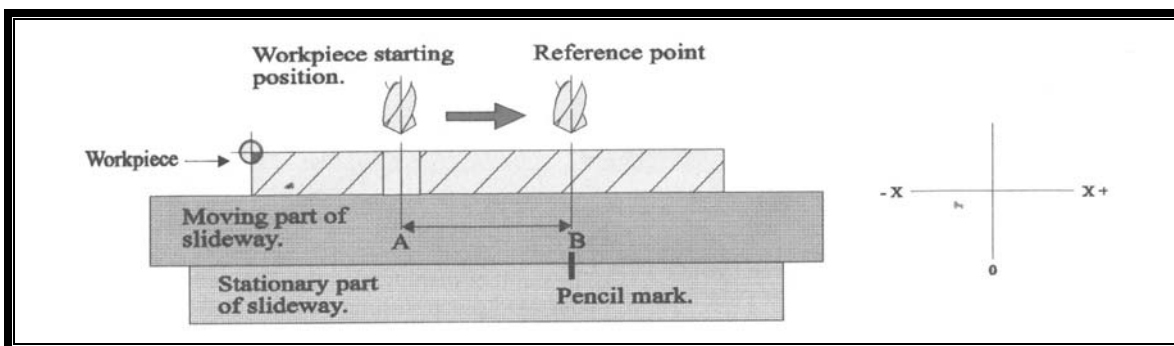

Figure 3 Finding the reference point
This section discusses how to find the reference point. Figure 3 below shows a graphical representation of the example in Table 7 below.
1. Find the work piece starting point (A in Figure 3)
3. Turn the hand wheel of the axis slide slowly, until you encounter the nearest reference point mark (B in Figure 3).	The LED next to the chosen display glows briefly as the transducer passes over the reference point.
6. Write down the distance travelled between your work piece starting position and the chosen reference point. (A – B in Figure 3).	The number displayed is the distance between your work piece starting position and the chosen reference point.
5. Reset the chosen axis to zero. Regain the work piece starting position by moving the distance measured at initial set-up (Distance A – B in Figure 3). The original positive or negative signs are inverted	0.00(mm) The number displayed is the distance between your work piece starting position and the chosen reference point